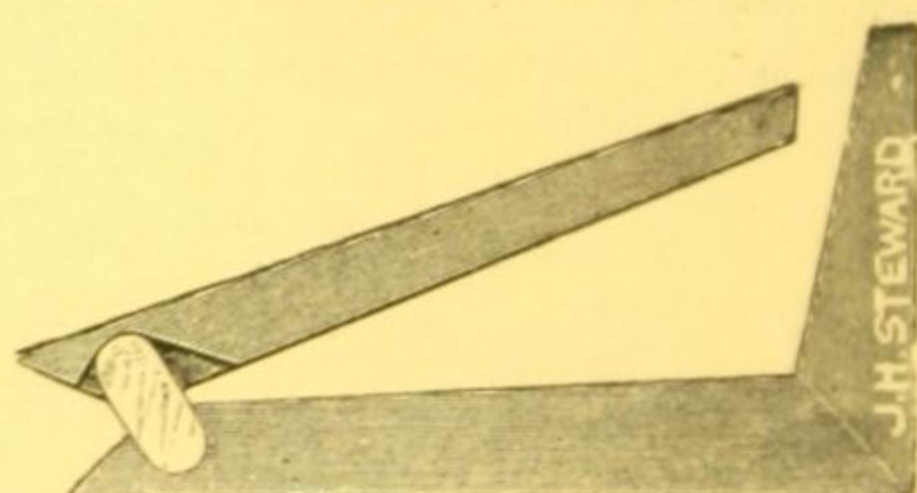

Fig. 211.
**Clinograph** or adjustable set square made of mahogany with friction tight movable arm, in two sizes. Fig. 211.